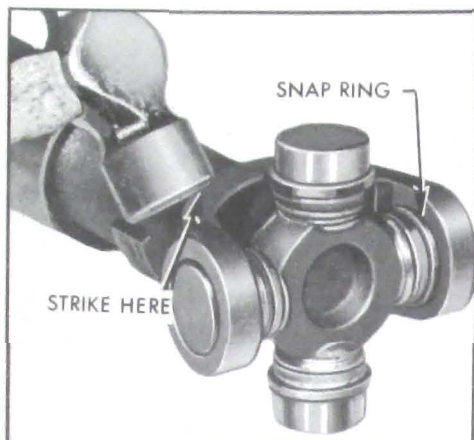

Figure 6-67—Seating U-Joint Snap Rings
4. Strike the yoke with a hammer to fully seat the snap rings against the yoke. Turn the spider to make certain that it is free. See Figure 6-67.